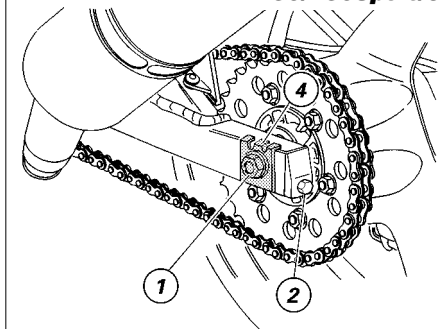

fig. 59
Slacken the nut (1, fig. 59) of the wheel spindle, tighten (turn clockwise) or slacken the screw (2) on either side of the swingarm equally to increase or reduce chain tension. If you are slackening the chain, you will have to push the wheel forward.
Make sure you have adjusted to the same setting marks on both sides of the swingarm. Refer to pointer on slider (4, fig. 59, 60). This will ensure perfect wheel alignment. Grease the thread of the wheel spindle nut (1) with